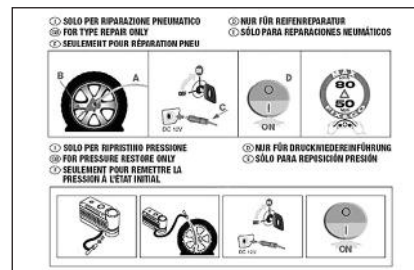

fig. 12
- ❑ instruction brochure (see **fig. 12**), to be used for prompt and proper use of the quick repair kit and to be then handed to the personnel charged with handling the treated tyre;